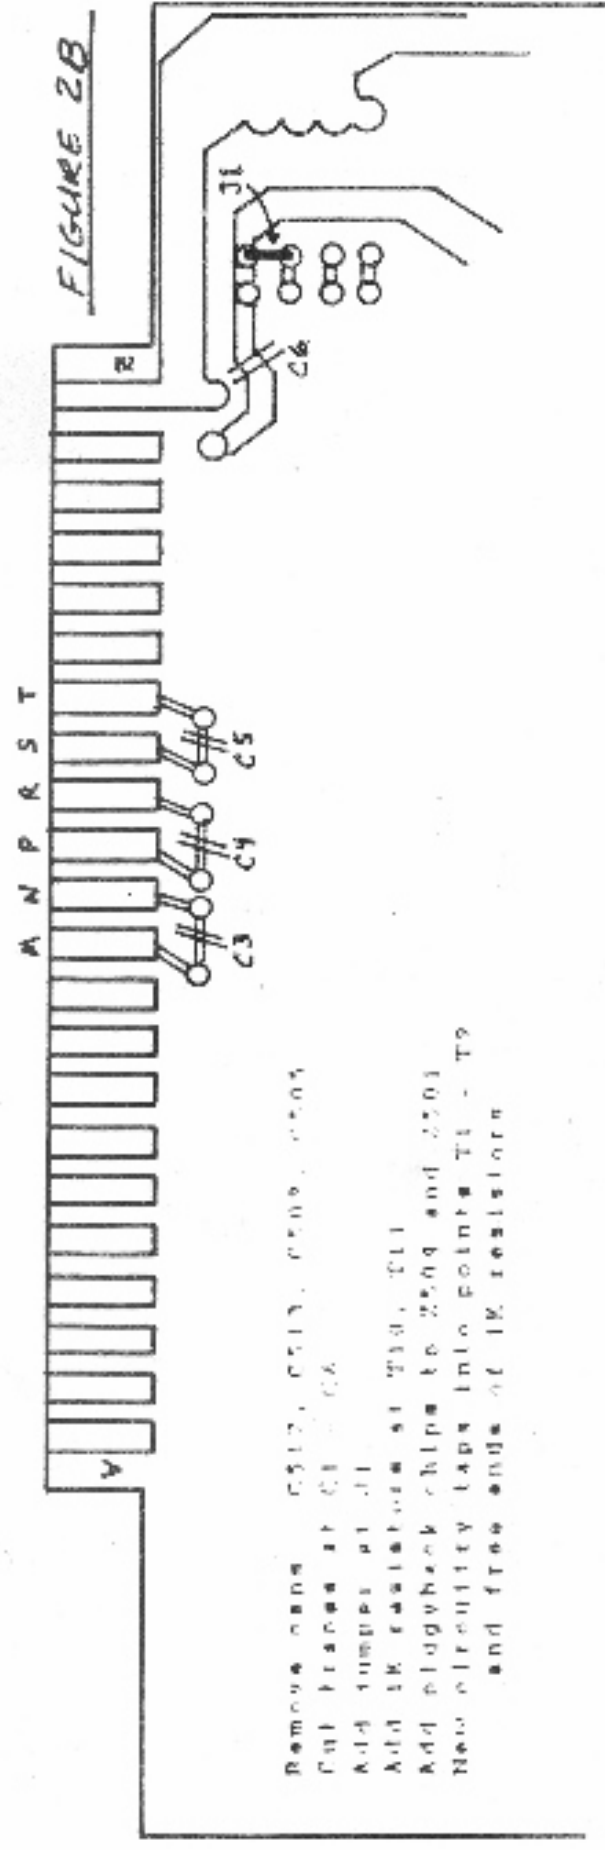

FIGURE 2B
- () C3 on the foil side (Figure 2B)
- () C4 on the foil side (Figure 2B)
- () C5 on the foil side (Figure 2B)
- () C6 on the foil side (Figure 2B)
- 15.() Using a bit of bare wire, install a jumper at J1 (see Figure 2B).